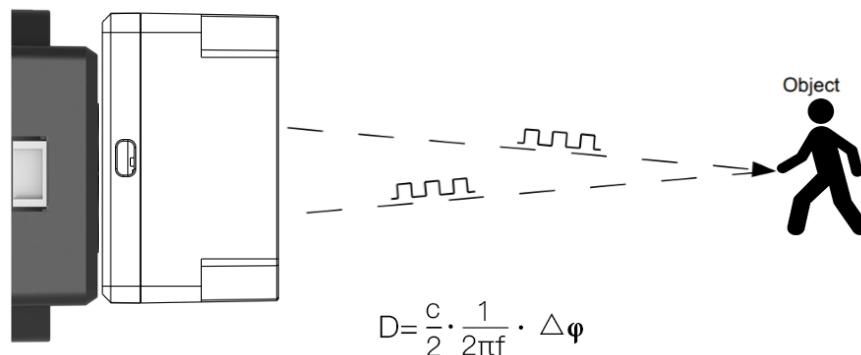

Figure 1 Schematics of ToF Principle
- TFmini Plus is based on ToF, namely, Time of Flight principle. To be specific, the product emits modulation wave of near infrared ray on a periodic basis, which will be reflected after contacting object. The product obtains the time of flight by measuring round-trip phase difference and then calculates relative range between the product and the detection object, as shown in Figure 1.